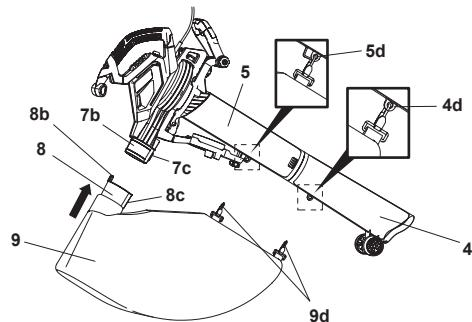

Fig. 6
- Align and insert the tab (8b) of the bag connector into the collection bag port (7b) and insert it as far as it will go. Make sure that the locking button (7c) snaps into the locating hole (8c) (Fig. 6).
- Attach two retaining clips (9d) to the bag hooks (4d/5d) on the lower suction tube (4) and on the upper suction tube (5).
**⚠ CAUTION:** Always use the product with the collection bag (9) attached when vacuuming to protect against flying debris and prevent injury. Do not use this product with a damaged or missing collection bag!
**⚠ CAUTION:** The harness (10) helps the operator to carry the product.